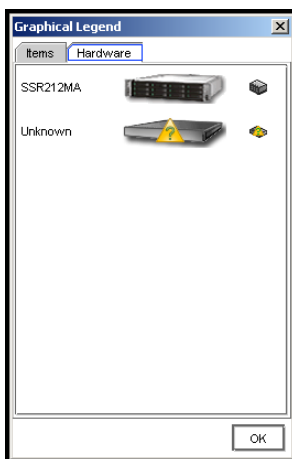

Figure 4. Viewing the Graphical Legend Hardware Tab
- The Hardware tab, shown in Figure 4, displays the icons that represent the different models of physical storage modules that display in the navigation window.